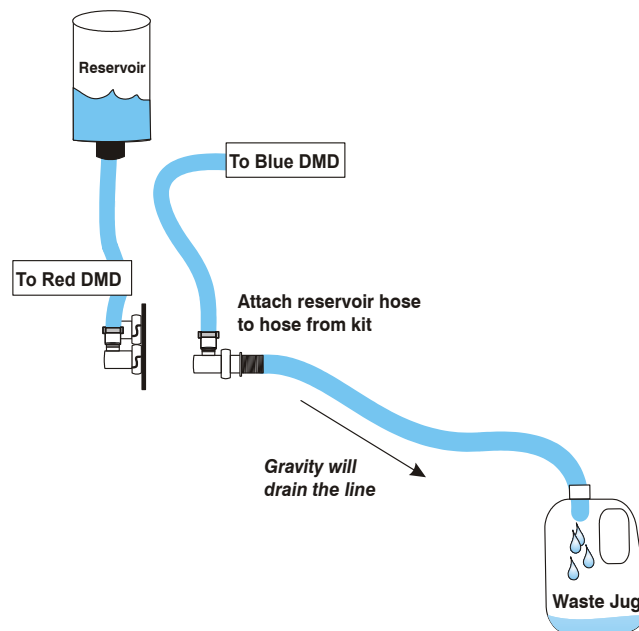

Figure 9 Drain Coolant
9. Insert the open end of the coolant hose into a waste jug capable of holding up to 2 liters of liquid. Position the jug lower than the reservoir to allow gravity to drain the liquid from the cooling system (**Figure 9**).